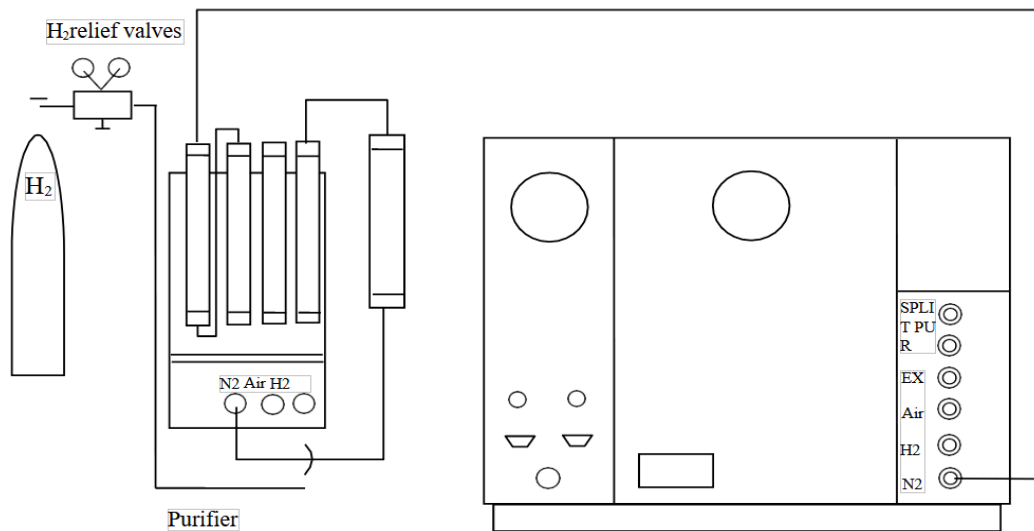

Figure 7-9 De-oxidation tube connection sketch
- Hydrogen should be strictly de-oxidized to prevent TCD strange peak occurring during temperature program. De-oxidation tube may be used de-oxidation. Please refer to Figure 7-9 for de-oxidation tube connection. Pure nitrogen (oxygen concentrate < 1ppm) shall also be used as carrier gas.